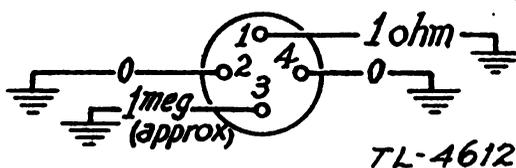

FIGURE 24.—Pin-to-ground resistances, generator cable plug. (REC-TRANS switch in TRANS position.)
f. *Generator cable plug-to-ground resistances.*—See figure 24.